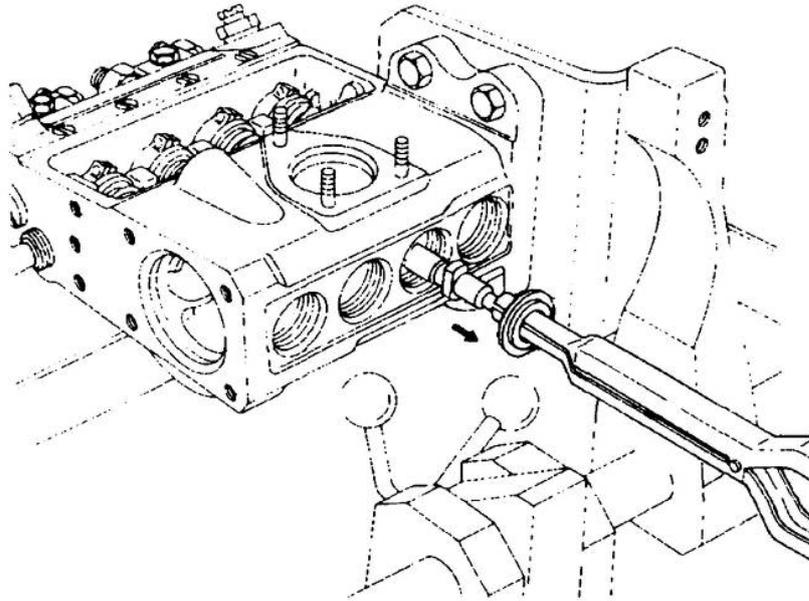

Figure 73 Removing the Spring Seat and Plunger
- v. Using special tool 157921-5620, remove the lower spring seats and plungers through the holes in the base of the pump (Figure 73).